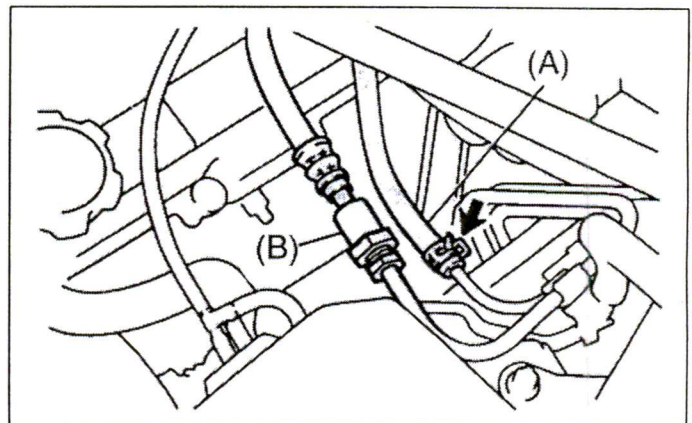

Figure 4
- Disconnect the fuel return hose (A) in Figure 4.
6. DO NOT REMOVE the fuel inlet line (B) shown in Figure 4.